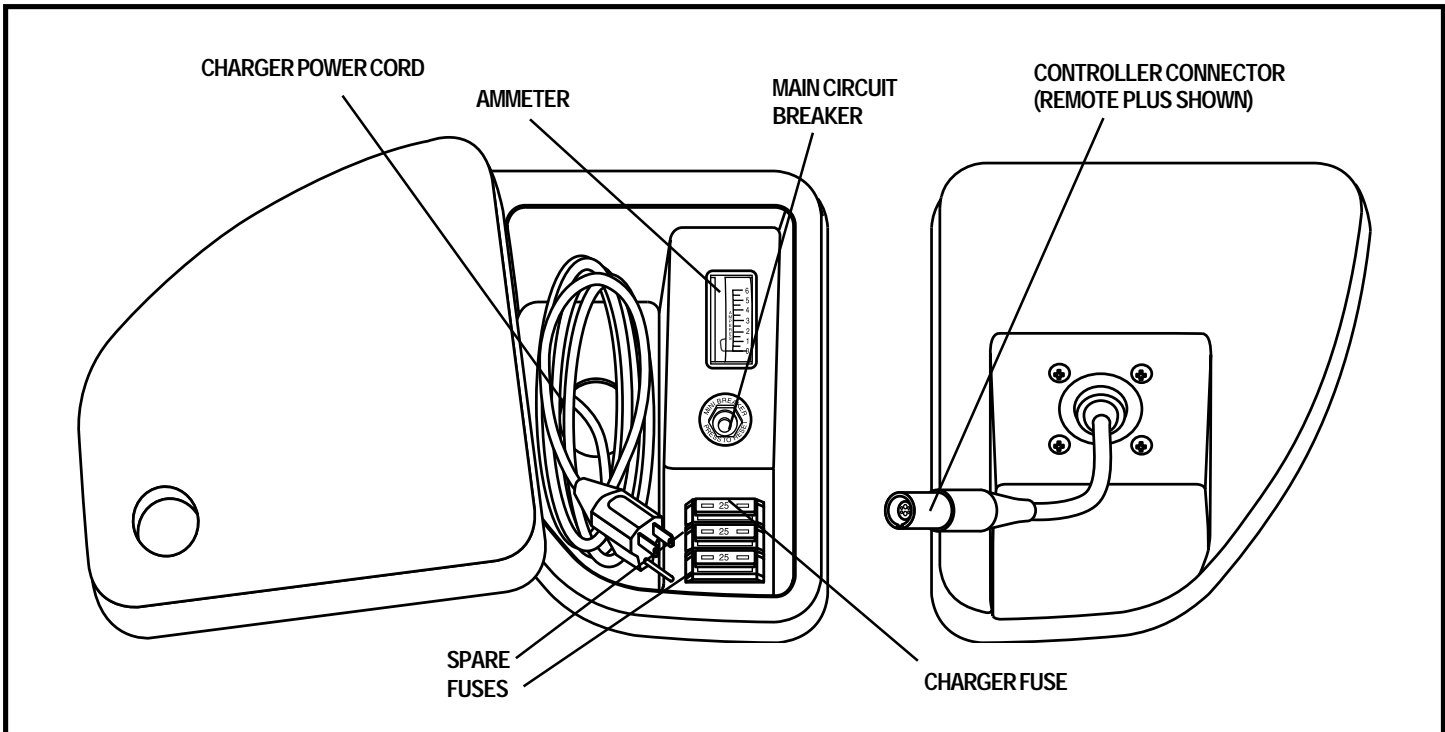

Figure 7. The Quantum Jazy 1420 Electronics Tray (Onboard Charging System Shown)
7. Plug the controller connector into the electronics tray. See figure 7=.